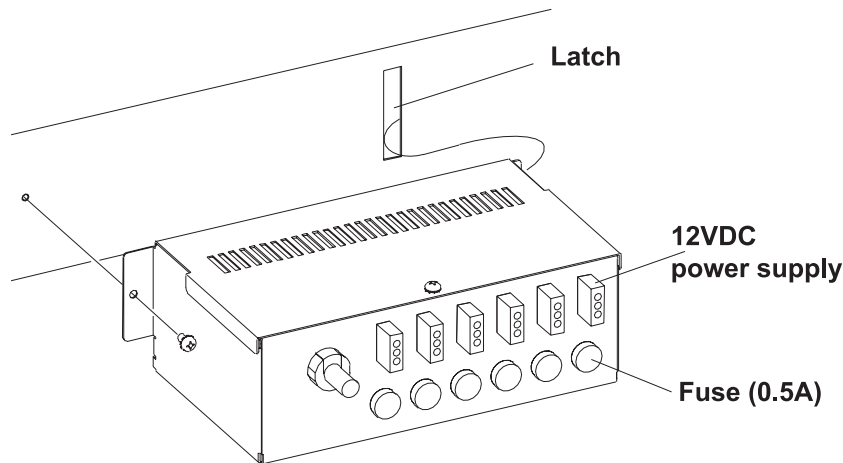

Figure 4-32 Removing the Comms Power Box
3. Remove the screw attaching the left side of the comms box to the machine cabinet (see *Figure 4-32 Removing the Comms Power Box*).